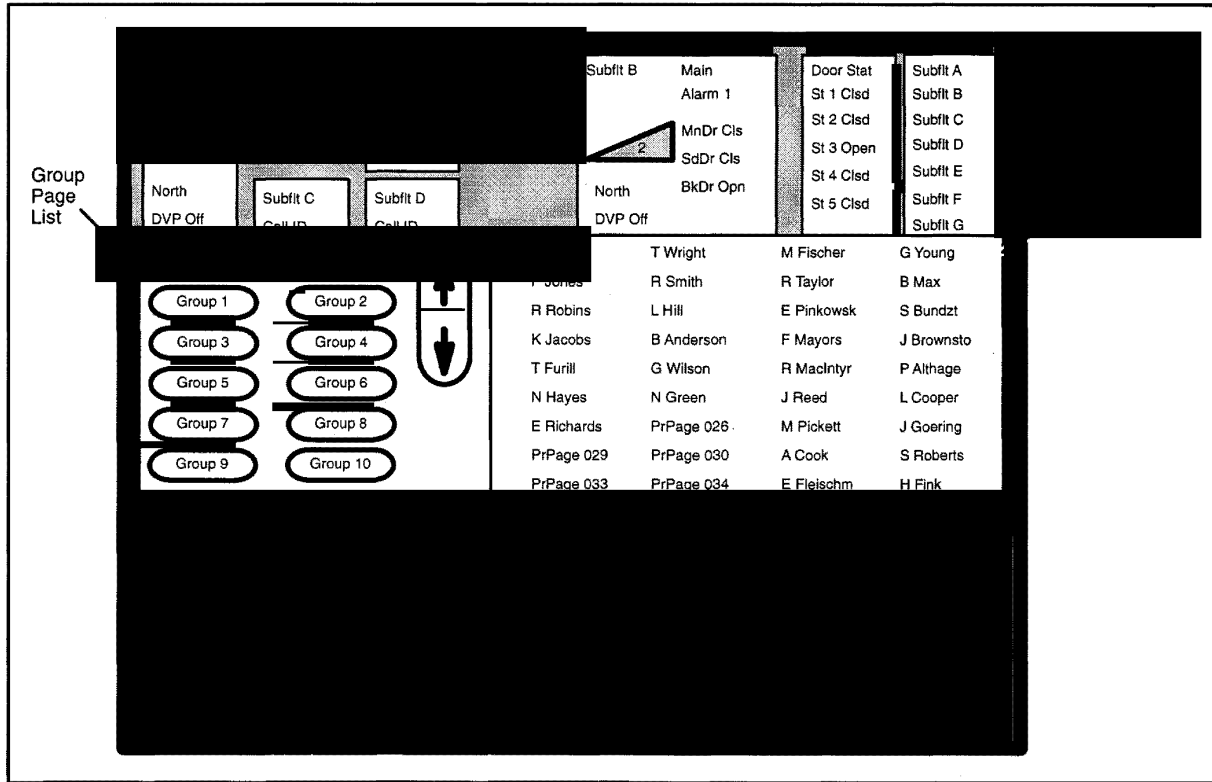

Figure 13. Group Page Window
Step 1. Choose the **Group** menu key from the Page menu. The Group Page Window opens displaying a **Send Page** command key, 10 **Group x** command keys (where x = 1 to 10), a **Save** command key, and a **Close** command key (see Figure 13).